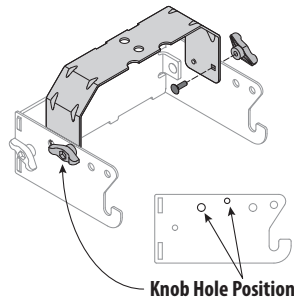

Figure 2
2. Flip over assembly and mount the hitch support bracket to the universal support bracket (783-08129) using two carriage bolts (710-0276) and wing knobs (720-04122) from hardware pack 689-02364. See Figure 2.
NOTE: Use the two holes closest to the cross mount, see Figure 2. The hitch support bracket will need to be flipped to enable alignment of the proper holes.